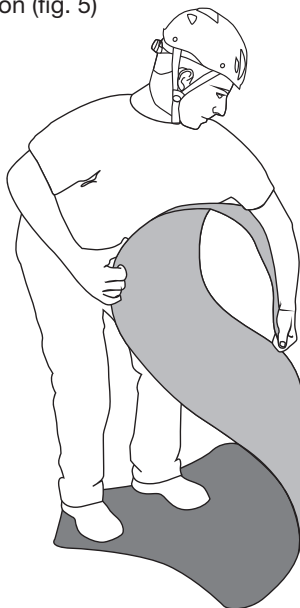

Fig. 5
- Remove the "ROLLY" rescue sheet from the transport bag (O) and remove the ratchet sling (N)
- Distend the support surface (A) and flatten it, rolling the ends over in the opposite direction and folding the central section (fig. 5)